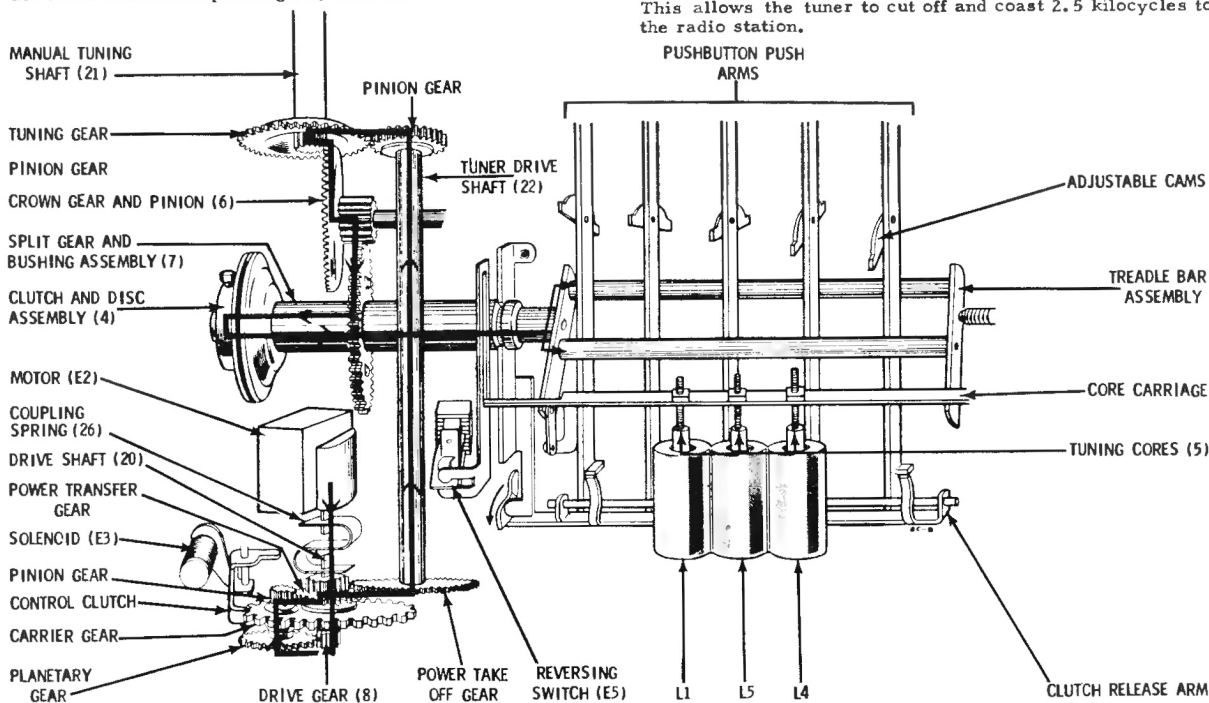
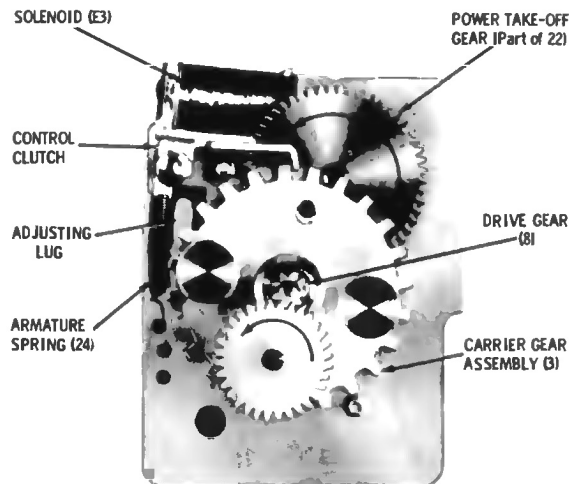

FIGURE 6. SEARCH TUNING
FIGURE 10. CLUTCH ENGAGED
7. Contact D completes the solenoid (E3) circuit to ground which causes the control clutch to engage the carrier gear (see Figure 10).
8. With the carrier gear engaged (because of the control clutch) the motor (E2) is allowed to transfer its power to the manual tuning shaft (21) as follows: (see Figure 6)
The planetary gear system functions as a switch to transfer the motor (E2) power to the manual tuning shaft (21) or to allow the manual tuning shaft (21) to rotate without turning the motor (E2). When the control clutch engages the carrier gear (see Figure 10), the power of the motor turns the manual tuning shaft (21) as explained under SEARCH TUNING and Figure 6. When the control clutch does not engage the carrier gear, the motor does not turn the manual tuning shaft (21), but allows the manual tuning shaft (21) to be turned without turning the motor.